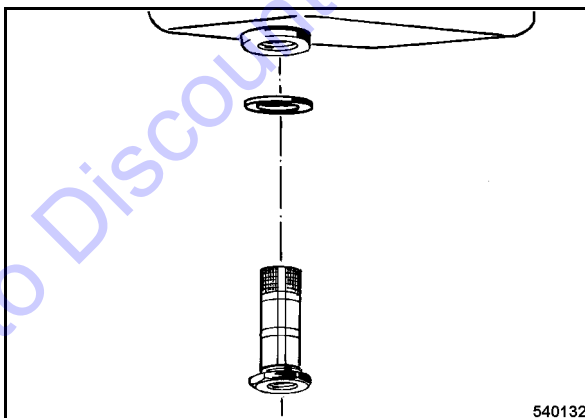

Fig. 51
- Screw the strainer (Fig. 51) out and clean it with gasoline.